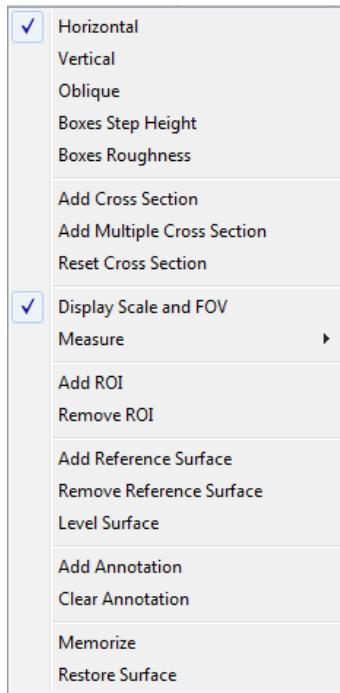

Fig. 58. 2D Composite View right-click menu
1. Right click within the 2D Composite View pane to bring up the menu shown in Fig. 58.
2. In the right click menu shown in Fig. 58, select *Add Cross Section*. A new cross section appears a short distance from the first cross section. It will have the same length and orientation as the first one.
1. With the cursor in the *2D Composite View*, right click to bring up the menu shown in Fig. 58.